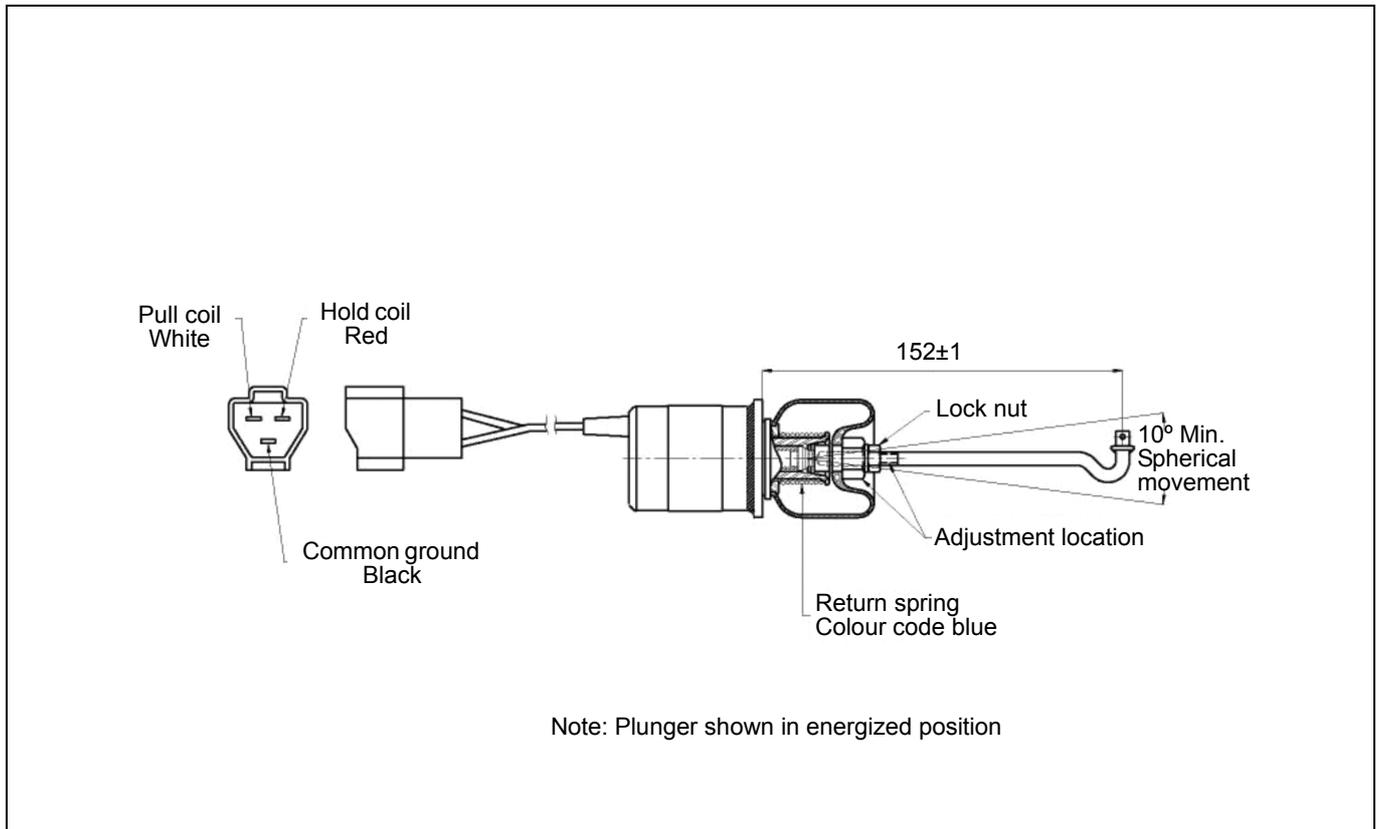

Figure 223
1. Check the connecting rod length and adjust to 152 +/- 1 mm if necessary (see Figure 223 on page 164).